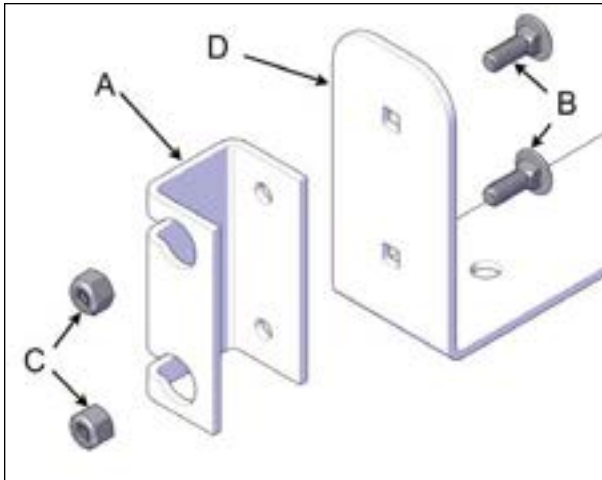

FIGURE 55: SAP ENTRANCE U-FRAME LINK AND METAL COUPLER
12. Install one unpainted metal coupler on each end of the spa entrance U-frame link see Figure 55.
13. Align one coupler with the holes on each end of the spa entrance U-frame link. Use the provided 1/4" x 3/4" carriage bolts, 1/4" nylon-insert lock nuts and fasten the hardware with the 7/16" (11 mm) socket wrench and spanner. There is one metal coupler per side see Figure 55.